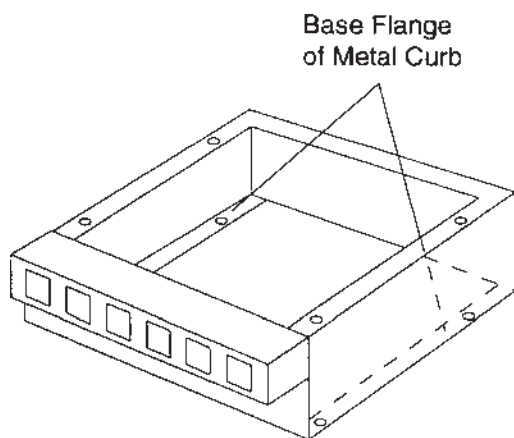

Fig. 2-2
- a. Bolt or weld base flange of metal curb (P/N33669) to floor of ship. See figure 2-2.